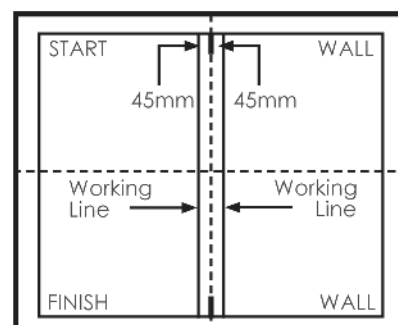

Fig 2.
2. Measure 45mm from the left and right of the center mark and right of the center mark at both ends of the room and strike a chalk line (Fig 2.).